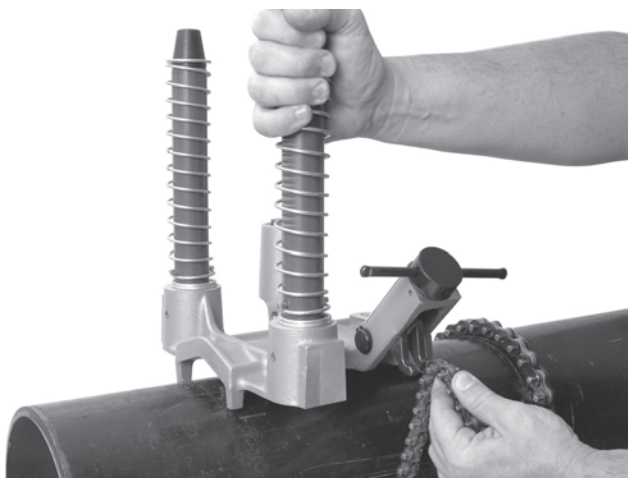

Figure 8 – Hooking the Chain
4. Always keep at least one hand on the base assembly to stabilize and guide it. Grasp the end of the chain and pull it snugly around the pipe. As you pull on the chain, a spring is compressed at the attachment end of the chain. Hook the closest chain pin on the chain hook – the spring tension will help keep the chain engaged with the chain hook. Firmly tighten the crank screw assembly to hold the base assembly to the pipe. (See Figure 8.)